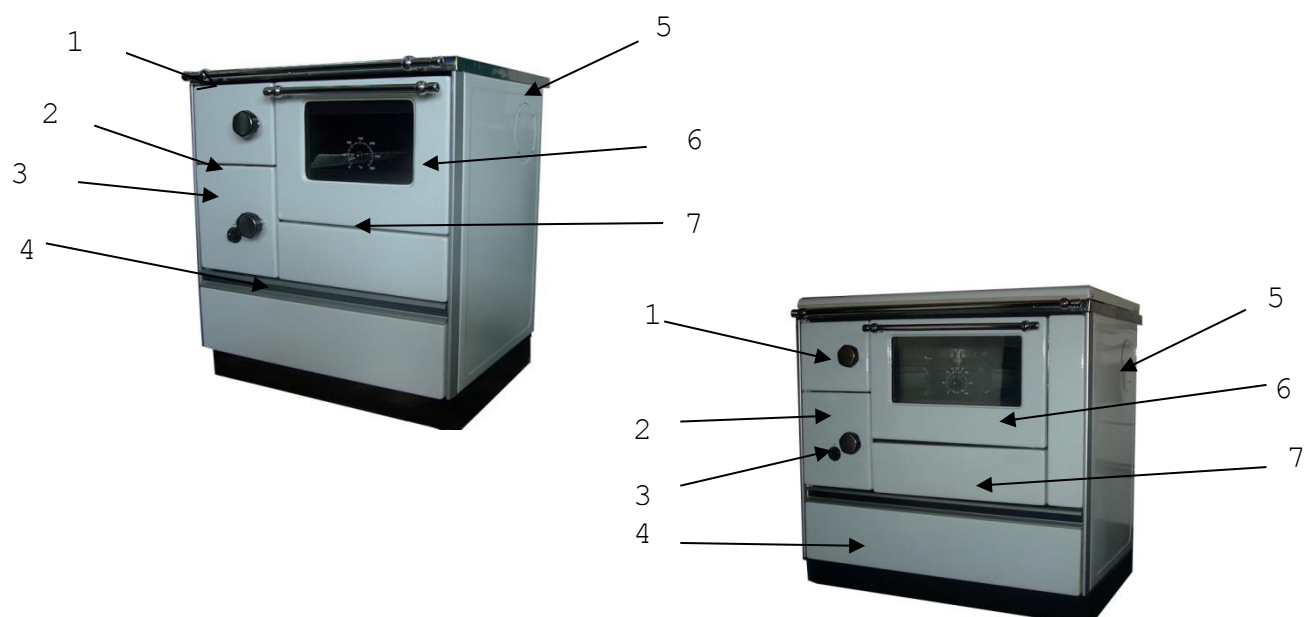
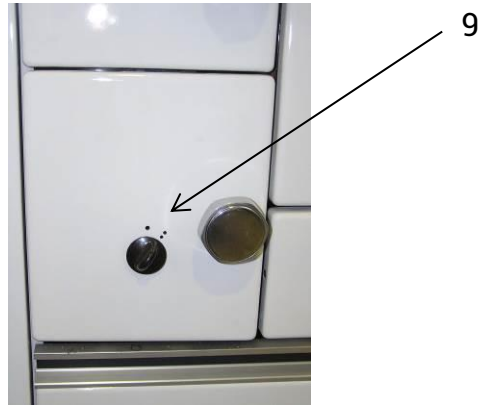

Figure 1
Fig. 3
The primary combustion air and thus the heating capacity of the stove is determined by the primary air for combustion. This air is controlled by the primary air control on the ashtray door (Fig. 1, item 3). The button on the ashtray door (Fig. 3, item 9) shows the direction of the opening and closing the slide opening. For firing, the air control should be opened to a maximum (set the button to the position 3).
3.4. OVEN DOOR (Figure 1, Item 6)
3.5. FUEL DRAWER (Figure 1, Item 4)
- * Open the primary air control to the largest air release (Fig. 3, item 9)